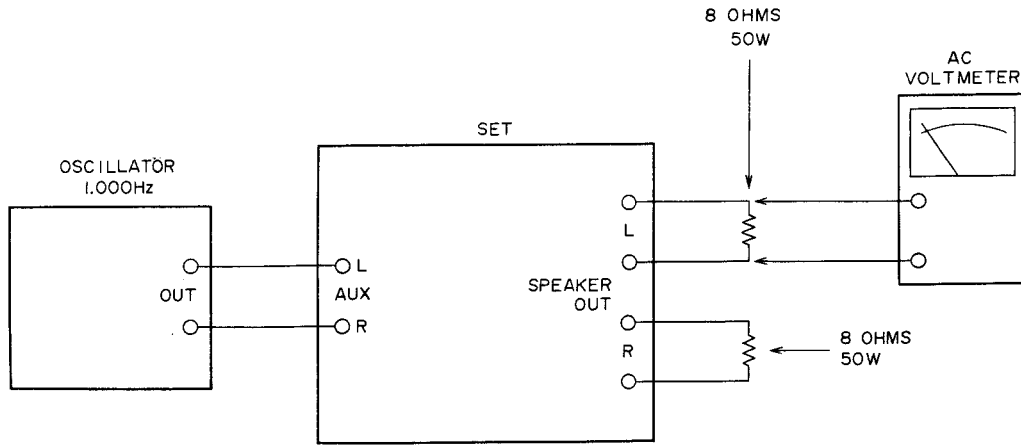

Fig. 9 Instrument Connections
2. OUTPUT BAR METER SENSITIVITY ADJUSTMENT (Refer to Figs. 9, 10)